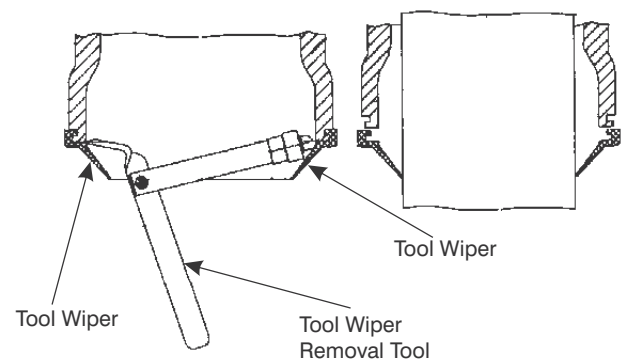

Figure 11-3. Removing and Installing Tool Wiper
(Refer to Figure 11-3.)
2. Remove tool wiper with special tool, P/N 676762; refer to Figure 11-3.